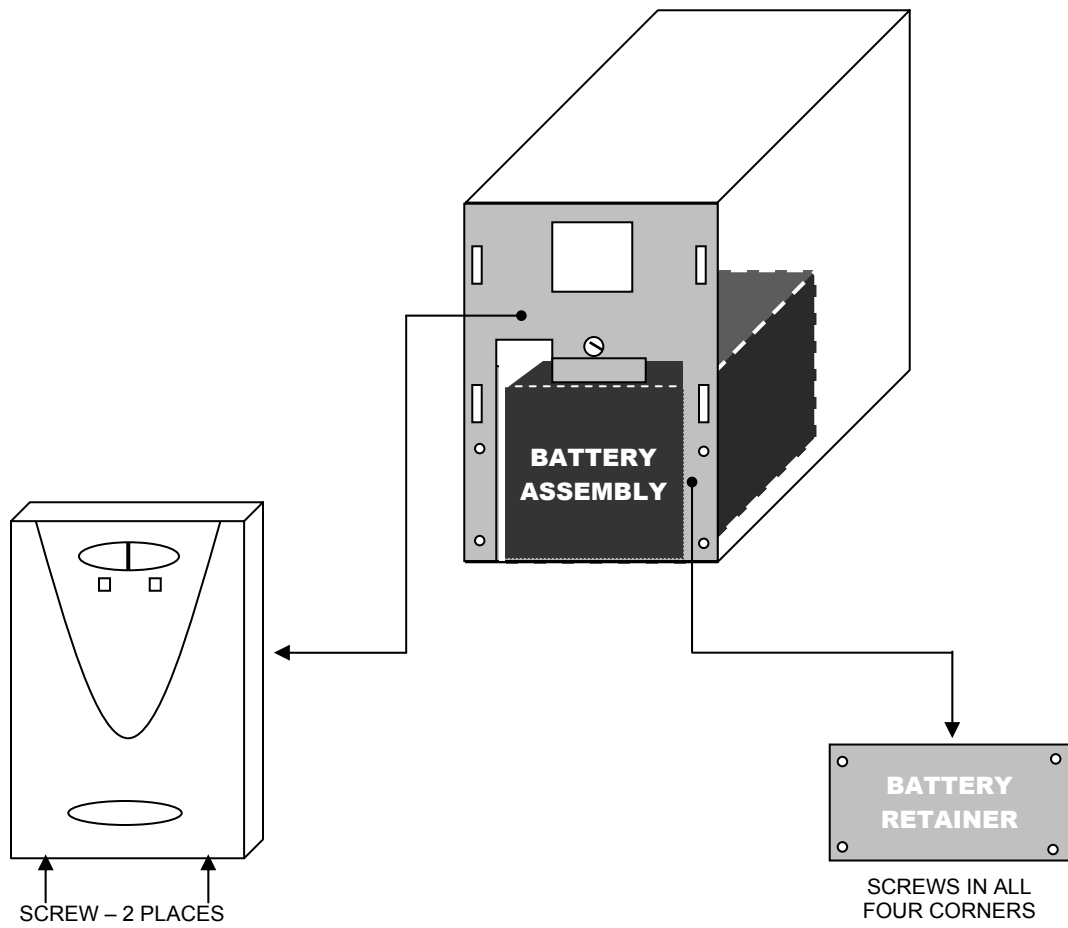

Figure 3 – Battery Replacement
**Please note:** If you have read and understood the cautions preceding this section, you may proceed with the following steps. Consult Figure 3 to assist you in the following battery replacement procedure.